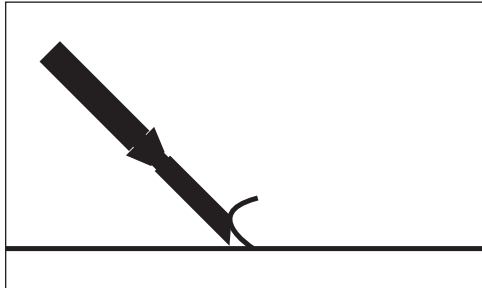
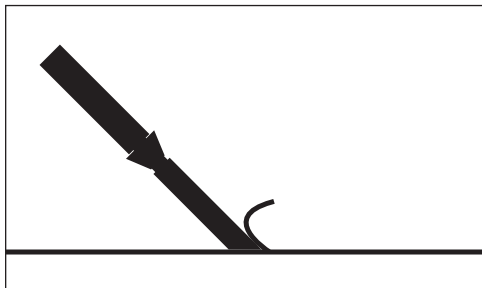

FIG. 5
FIG. 6
- Normally, bevel up is for concrete (Figure 5); bevel down is for wood or softer substrates, e.g. Gypcrete (Figure 6).